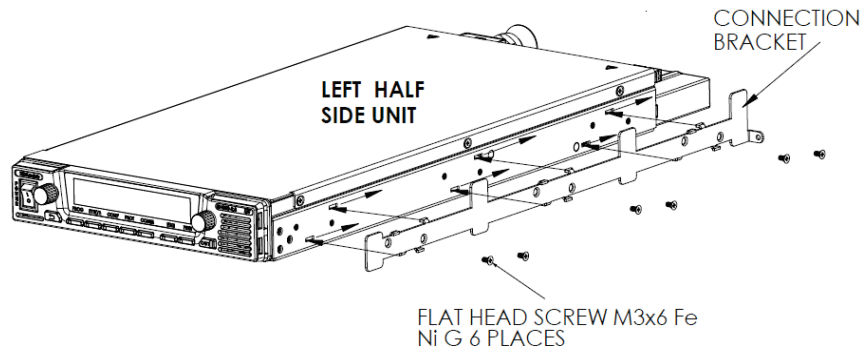

Figure 4-6: Connection Bracket Fixing to Left Unit
2. Push the connection bracket toward the rear side of the power supply and then fix the bracket to the chassis with 6 flat head screws as shown in Figure 4-6.